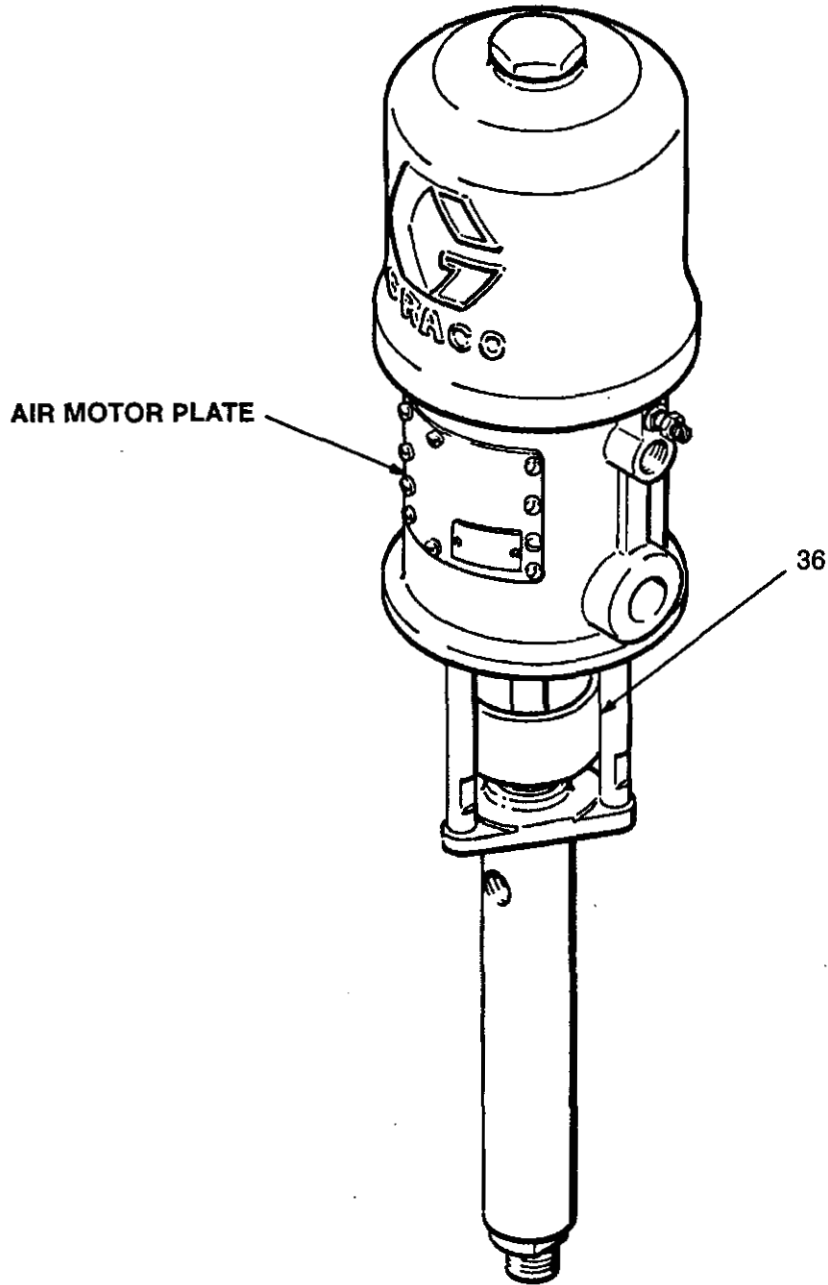

Fig 2
Moving parts can pinch or amputate your fingers or other body parts. When air is supplied to the motor, the air motor piston (located behind the air motor plates) moves. See Fig. 2. Therefore, NEVER operate the pump with the air motor plates removed.
Keep the packing nut/wet-cup (36) filled with Graco Throat Seal Liquid (TSL) or compatible solvent, to help prolong the packing life. Adjust the packing nut weekly so it is just tight enough to prevent leakage; do not overtighten. See Fig. 2. Always follow the **Pressure Relief Procedure Warning** above before adjusting the packing nut.